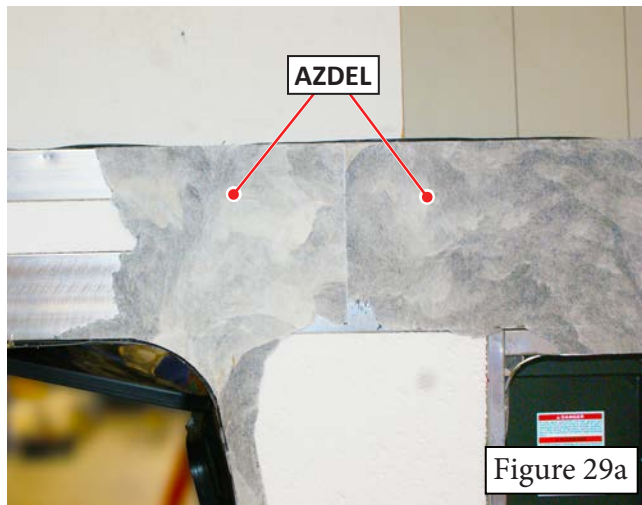

Figure 29a
15. The fiberglass is backed with an azdel material which may separate from the fiberglass and stick to the structure. Once all of the fiberglass has been removed, use a putty knife, oscillating multi-tool or a grinder, remove ALL of the azdel and any residual adhesive from the aluminum wall structure (Figure 29a and 29b).